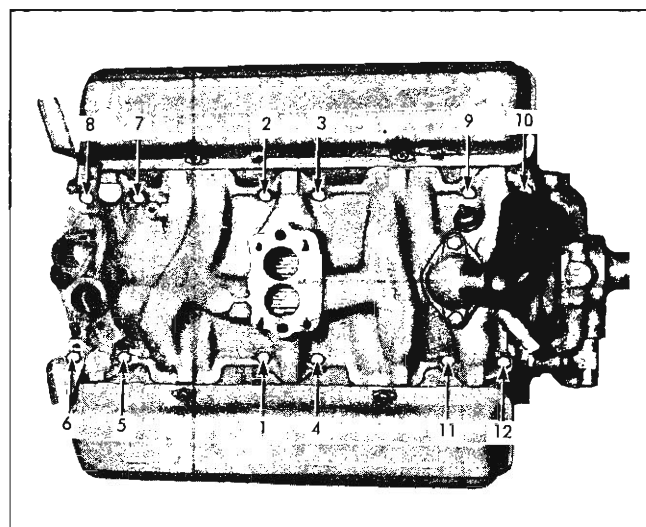

Fig. 5V—Manifold Torque Sequence
5. Install manifold bolts, remove the pilot and torque bolts to specifications in proper sequence (fig. 5V).